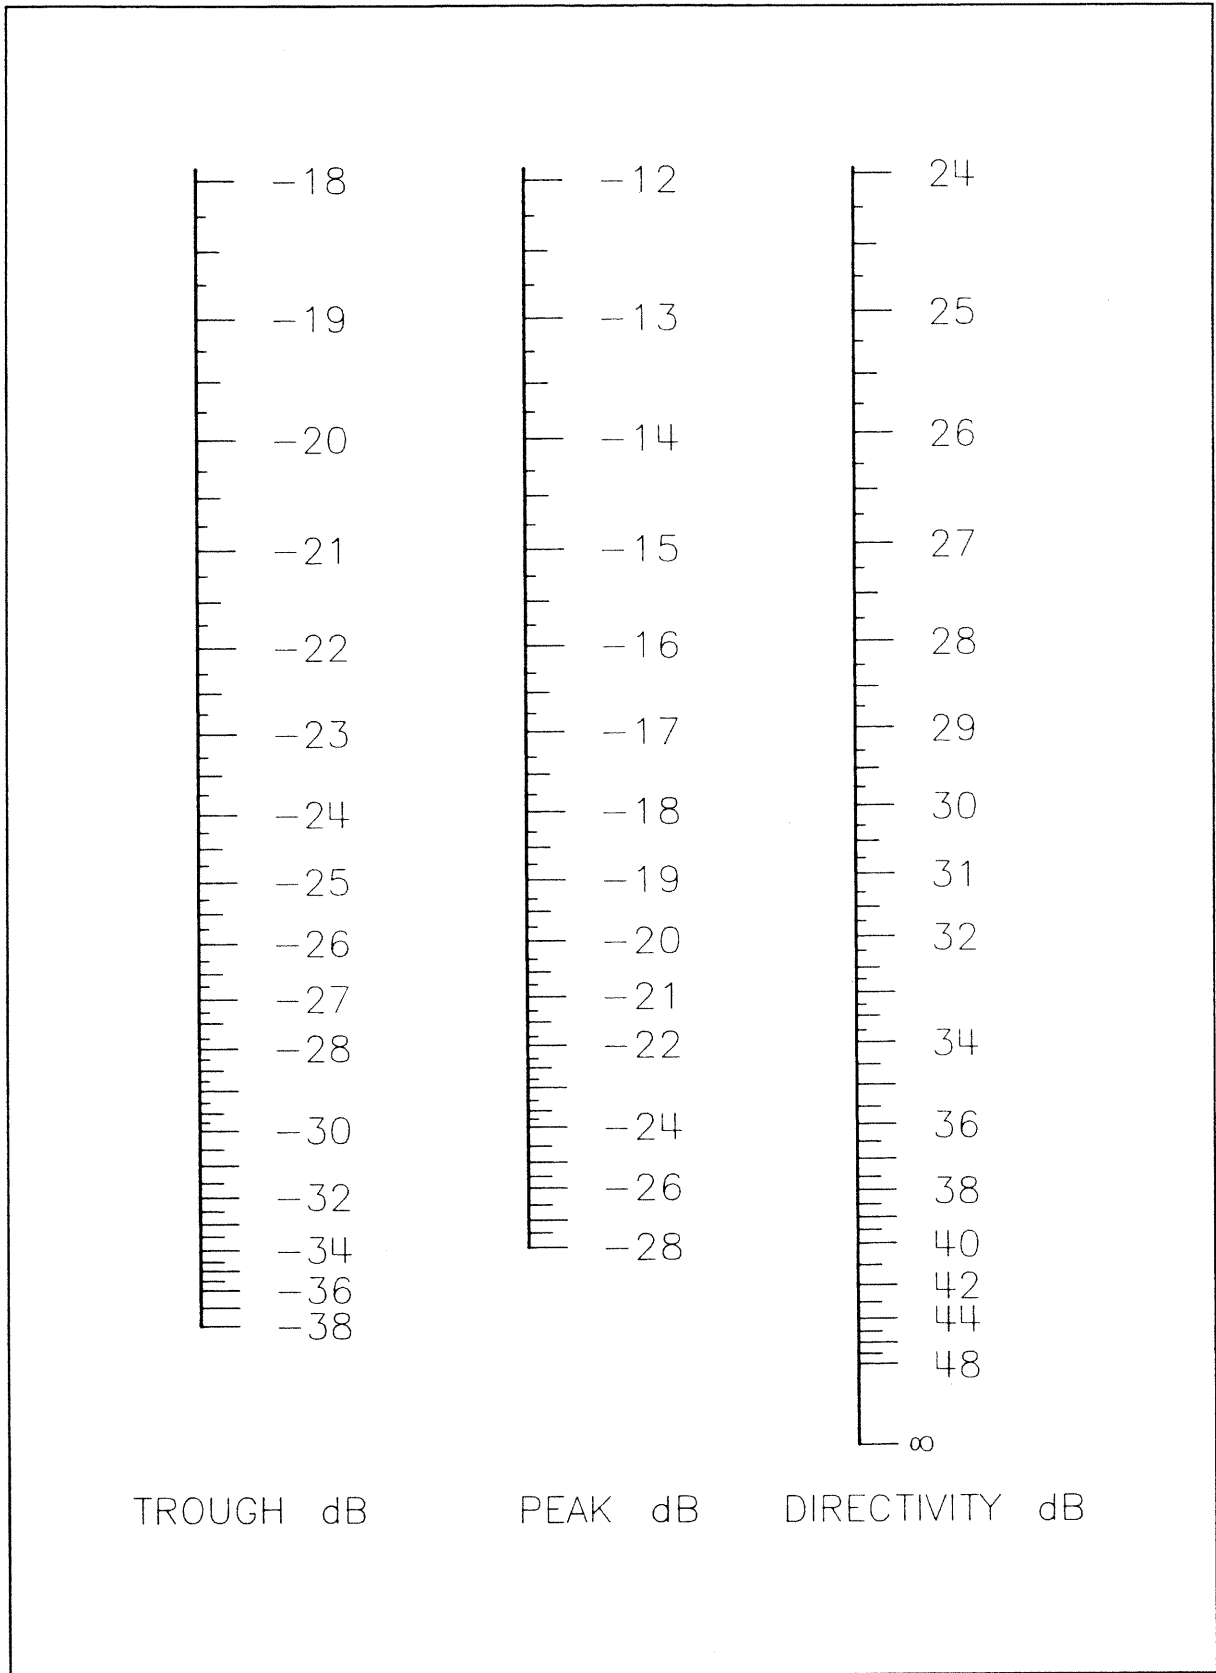

Figure 4-5B. Directivity Nomogram
- b. Follow the *Directivity Nomogram Instructions* to use the nomogram in Figure 4-5B to determine the directivity (**DIR**) and the maximum and minimum directivity values (**Dir Range**).
2. Using the directivity nomogram in Figure 4-5B, align a straight edge to cross the Trough Scale at the value measured for the **Trough Value** and the Peak Scale at the value measured for the **Peak Value**.
4. Using a compass, set one leg at ∞ on the directivity scale in Figure 4-5B. Set the other leg at the system uncertainty (given on the *Performance Test Record*).